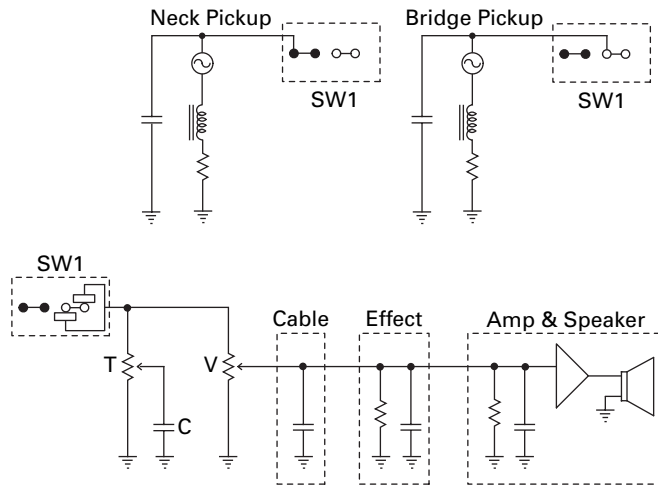

FIGURE 12-8 Simplified schematic of the Telecaster and typical setup
An electric guitar is like a CD or DVD player in a home entertainment system, in that the listening experience depends as much on the speakers, amplifiers, mixers, and other devices as it does on the signal source. As such, in considering the operation of our Tele, we have to assume a typical system configuration—at least one cable, perhaps an effects pedal, and an amplifier with a built-in or external speaker system, as in the schematic shown in Figure 12-8. For our purposes, the Tele can be reduced to a magnetic neck pickup, magnetic bridge pickup, pickup switch (SW1), tone potentiometer (T), volume potentiometer (V), and tone capacitor (C).
Returning to the schematic in Figure 12-8, you'll see that the pickups are not in free space. They can be connected in parallel with each other and with the other systems' components. The capacitance across the inductance of each magnetic pickup includes a contribution from the 0.05µf tone capacitor (C) as well as the equivalent capacitance from the cable, effects pedal, and amplifier input circuitry. The typical cable contributes 200 to 500pF, depending on length and manufacturer. Cable resistance is insignificant, given the low signal levels involved. Effects pedals easily contribute another 100 to 200pF to the system. In addition, pedals that don't completely disconnect when powered off contribute as little as 500KΩ of shunt resistance. The typical amp input also contributes about 1M of shunt resistance and 100pF capacitance. All this has an effect on the tone of the system, namely shunting high frequencies to ground.